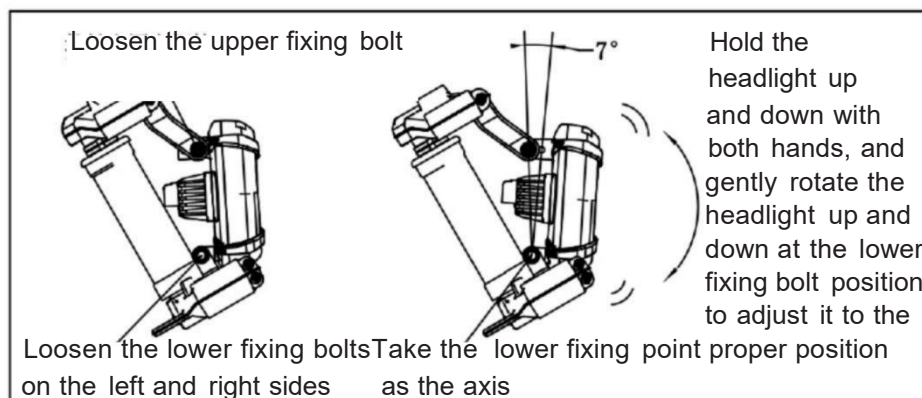

Figure 11
4.7. Headlight pitch angle adjustment (Figure 11)